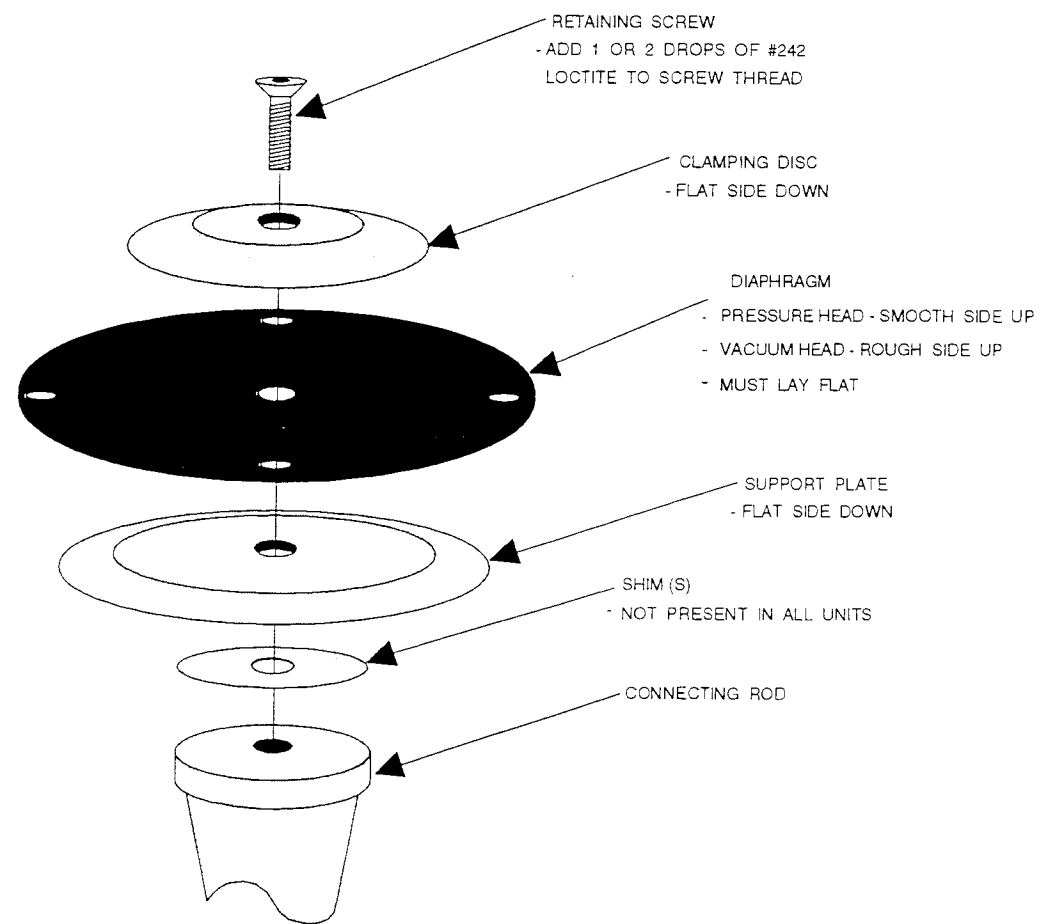

Figure 8-3
4. Refer to figure 8-3. Loosen and remove the diaphragm retaining screw.